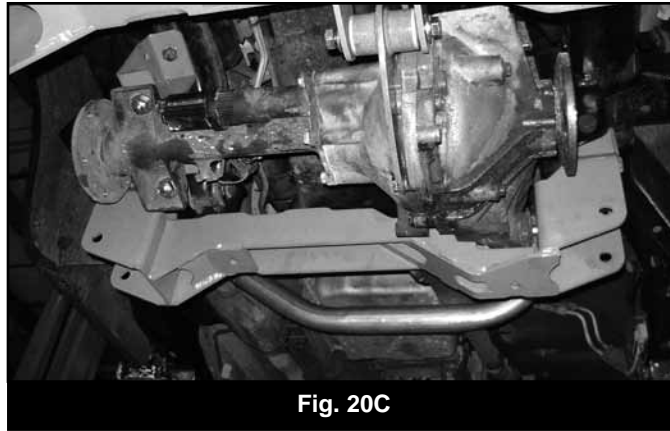

Fig. 20C
39. Install the new rear crossmember (02345) in the lower rear OE control arm pockets will aligning the differential mount. Fasten the crossmember to the frame with the original control arm pivot bolts, nuts and washers. The bolt heads must be to the front of the vehicle. Fasten the differential to the crossmember with a 9/16" x 4" bolt, nut and washers (BP 555). Leave mounting bolts loose (Fig 20C).